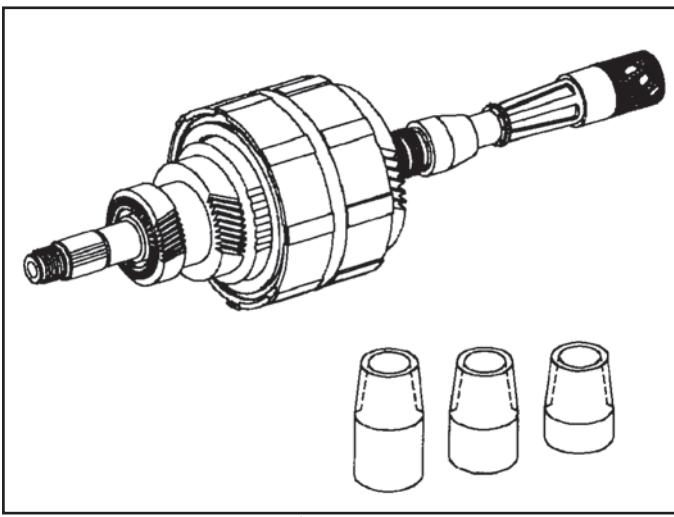

Figure 128
19. Install 3 new input shaft sealing rings (Teflon™ Rings) using Saturn's input shaft seal installer kit or equivalent (See Figure 128). Saturn's seal